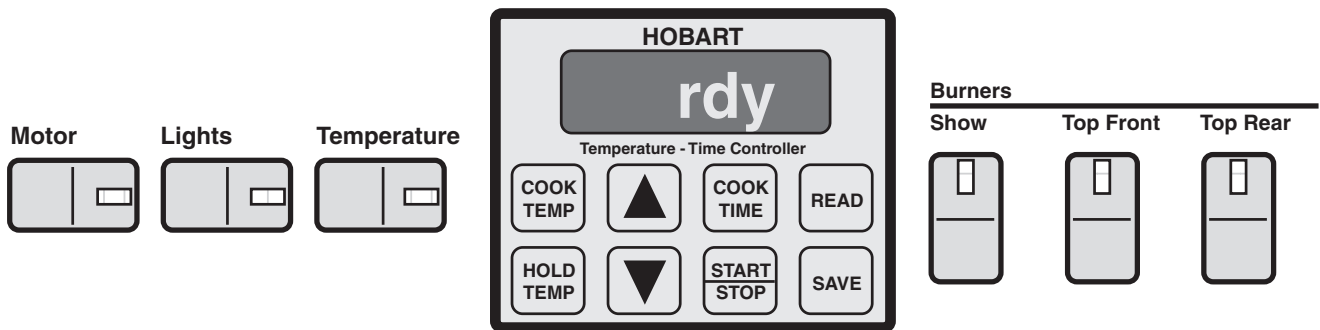

Fig. 15
- Turn Lights switch on (Fig. 15).
- Turn Motor switch on (Fig. 15).
- Turn Show Burner switch on (Fig. 15).